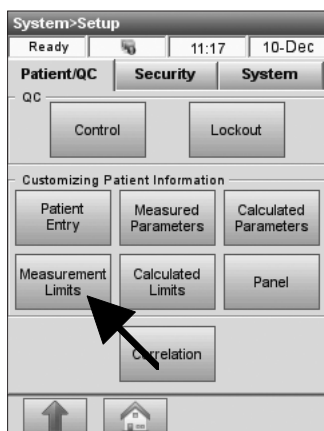

Fig. 3-24 Measurement Limits
2. On the **<Patient/QC>** tab, press **<Measurement Limits>** (Fig. 3-24).